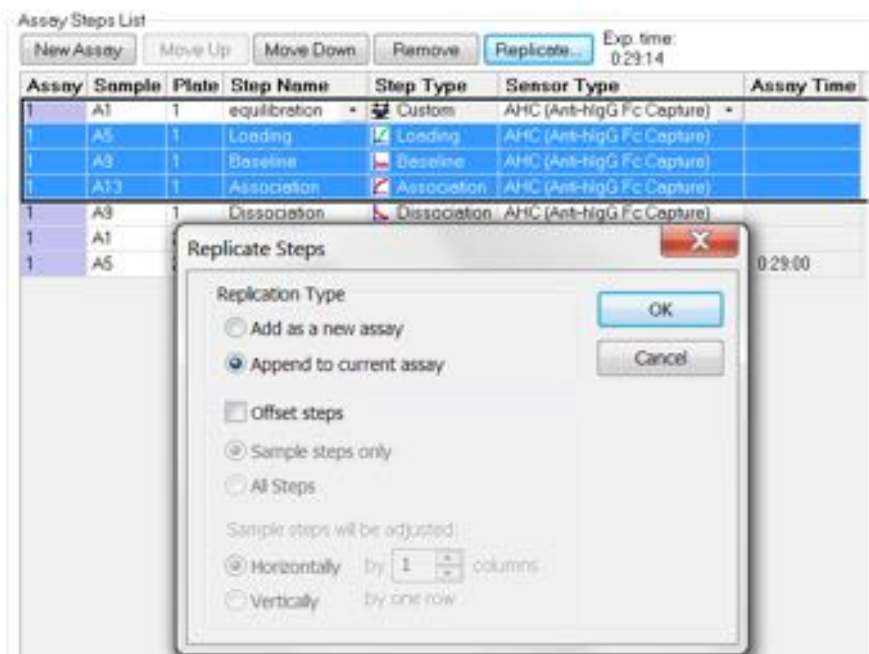

Figure 10-45: Replicating Assay Steps by Appending
1. In the **Assay Steps List**, select the step(s) to copy and click **Replicate** (for example, in Figure 10-45, step rows 1–4 are selected).
2. In the **Replicate Steps** dialog box (see Figure 10-45), click the **Append to current assay** option.